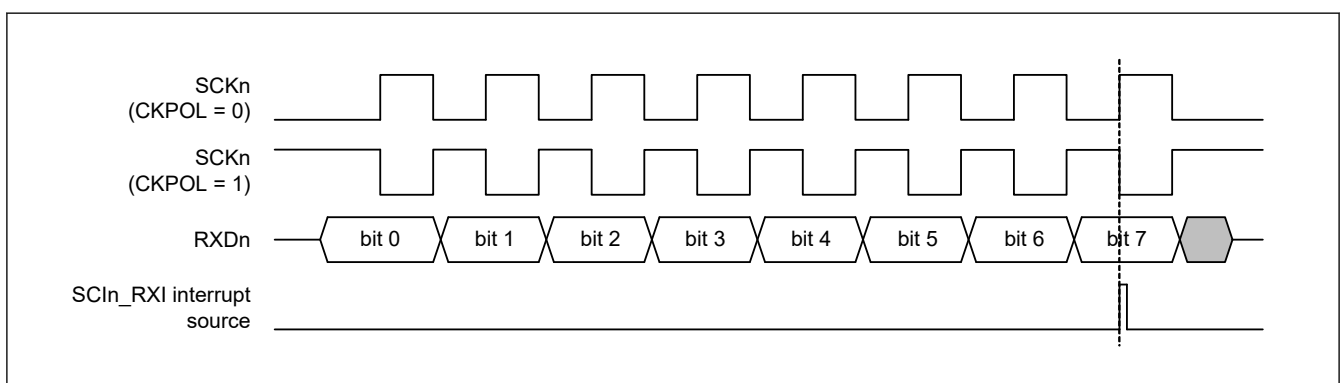

Figure 26.78 Timing of SCIn_RXI interrupt in simple SPI mode with clock delay
- For the clock delay setting (SPMR.CKPH bit is 1), the receive data full interrupt (SCIn_RXI) is generated before the final clock edge on the SCKn pin as indicated in Figure 26.78. If the TE and RE bits in the SCR register become 0 before the final edge of the clock signal on the SCKn pin, the SCKn pin is placed in the high-impedance state, so the width of the last clock pulse of the transfer clock is shortened. Additionally, an SCIn_RXI interrupt might lead to the input signal on the SSn pin of a connected slave going to the high level before the final edge of the clock signal on the SCKn pin, leading to incorrect operation of the slave.